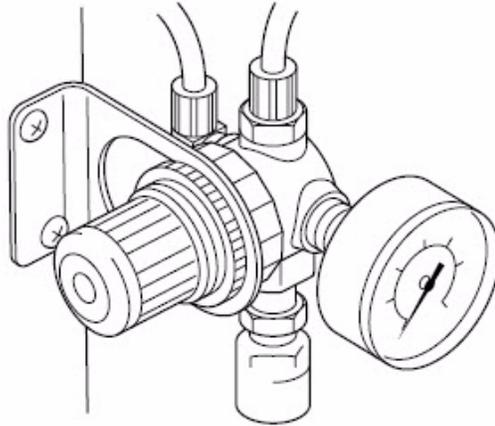

Figure 6-1: Pressure Regulator
- 2 Turn OFF the air supply. (Figure 6-1).